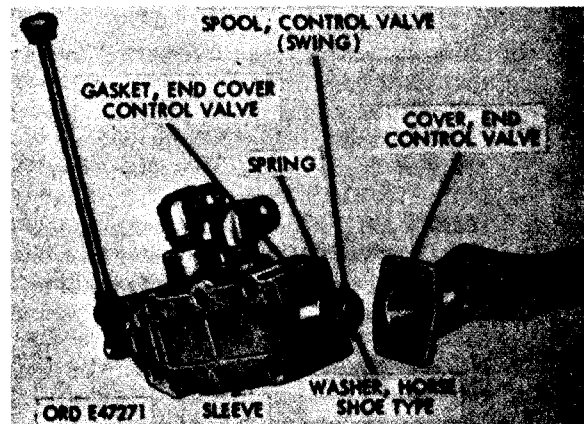
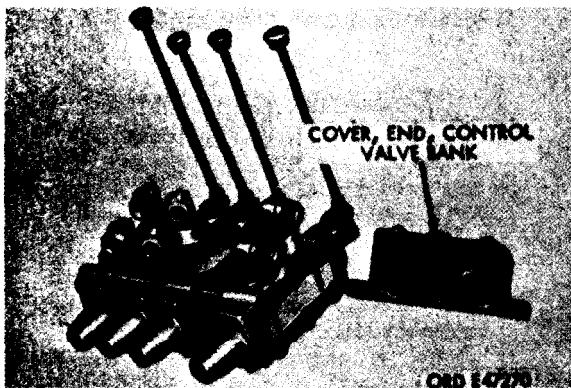
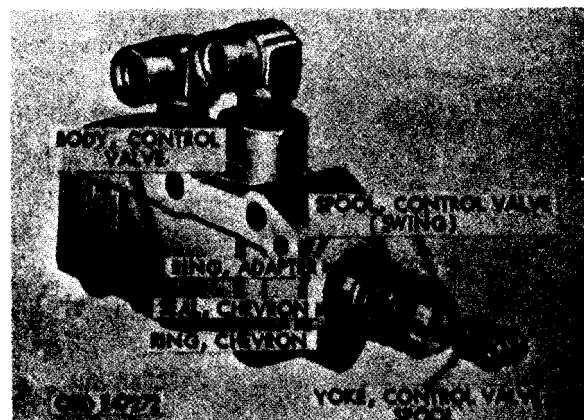

Figure 484. Removing control valve end cover
Figure 483. Control valve bank end cover separated from control valve bank assembly
Figure 485. Control valve spool and chevron seals removed
- (2) Disassemble control valve bank assembly. Remove six hex-nuts and nuts and lockwashers from end of control valve bank assembly and remove control-valve bank end cover (fig. 483). Separate valve bank into individual control valves.
(3) Disassemble individual control valve.
- (a) Remove four cap screws (W) and washers and lift off control valve end cover (TT) and gasket (fig. 484).
- (b) Compress spring slightly and remove horseshoe-type washer (fig. 484), spacer, spring, and plain washer from rear end of (swing) control valve spool.
- (c) Remove cotter pins from the two lever retaining pins and take off control valve lever (P) and linkage from front end. of control valve. Remove cap screw (H) beneath control valve spool and eyebolt (R) above control valve spool. Take off control valve spool, front cover (F).
- (d) Slide control valve spool together with adapter ring (Z), chevron ring (M), and three chevron seals (E), out through front end of control valve body (fig. 485).
- (e) Remove control valve spool yoke (fig. 485) and locking nut (Y) from end of (swing) control valve spool (D).
- (1) Cleaning. The control valve bank assembly must be treated with care. A clearance of 0.0002 to 0.0004-inch
- (b) Drum shaft keys (fig. 483). Remove two square keys and plain thrust washers from drum shaft.